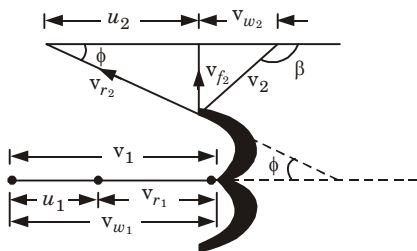

Fig. 4.16.1.
4. As $v_{r2} \cos \phi$ is less than u_2 , the velocity triangle at outlet will be as shown in Fig. 4.16.1.